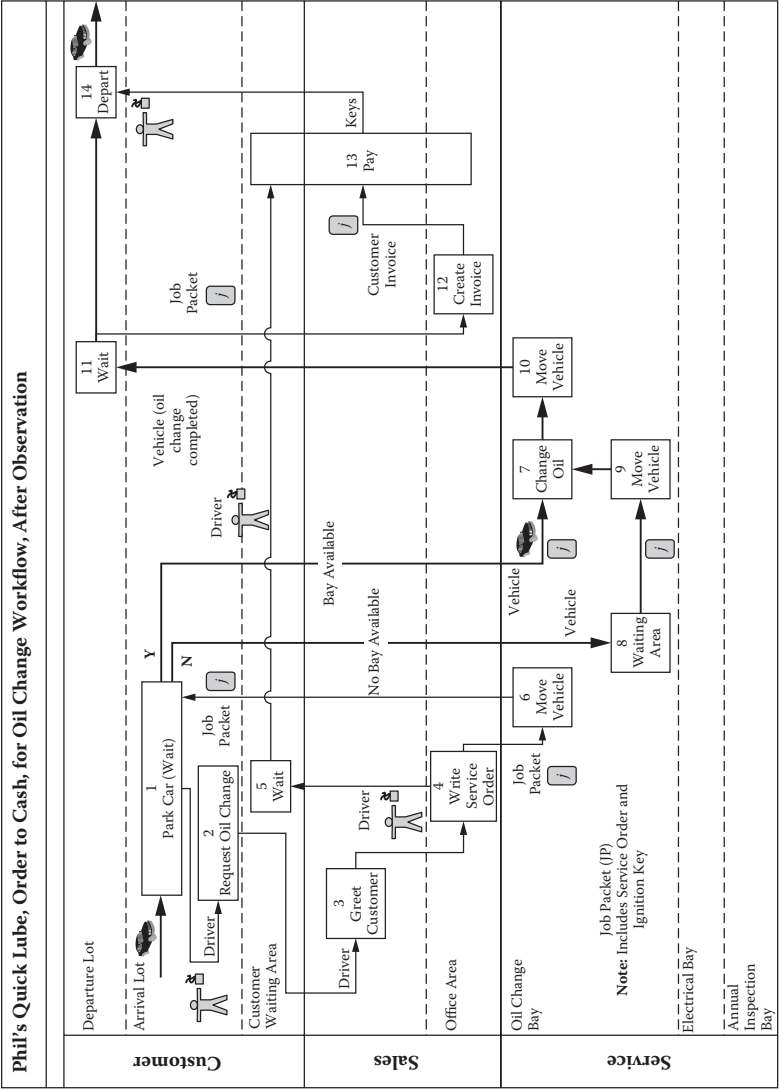

Figure 5.23 Phil's Quick Lube Order to Cash for an oil change workflow (after observation of work).
I've included two versions of a cross-functional process map associated with this work. The first version (Figure 5.22) is based on the *interview* only. The second version (Figure 5.23) is based on the interview *plus* observation of the work. I used the second version for this interpretation.
- Activities 1–14 in Figure 5.23. Note that this map does not include the supply-related workflow (activities 11–13 in Figure 5.22).
Please refer to Figure 5.23. I've used icons to highlight the flow of the customer, the vehicle, and information. The supplies do not show up in this map.